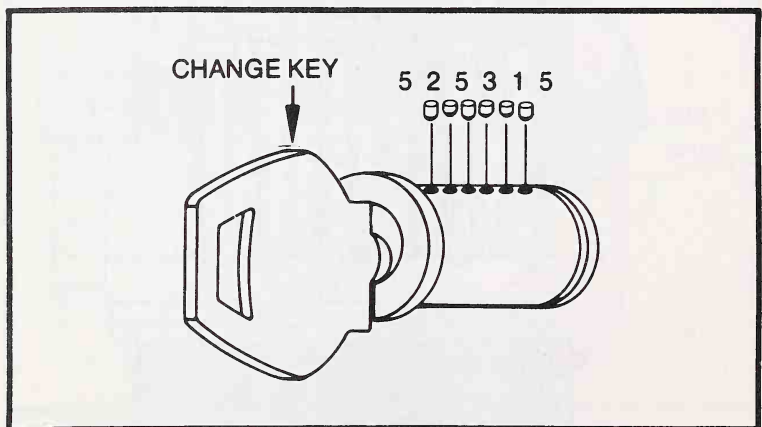

Fig. 13-21. Pin length corresponds to the change-key combination. (Courtesy Emhart Corp.)
12. Install the appropriate master pins (Fig. 13-21).